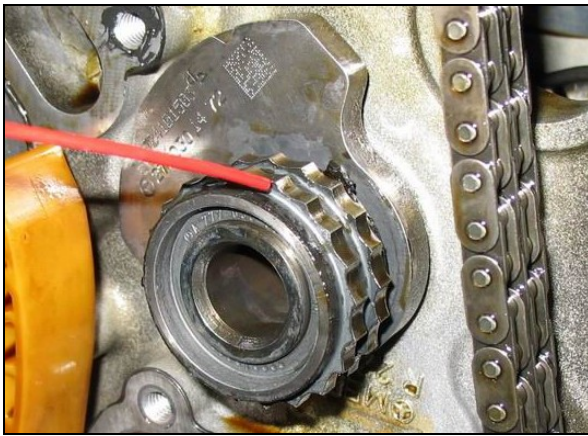

Figure 1 – Damaged/worn S-B-03.30/08a
**Fault Code Scenario 1:** DTC 1200 and/or 1208 is/are present in ME-SFI control module. The fault codes are recorded as current and/or stored in the fault memory. When the fault memory is erased and the engine is restarted, the fault codes reoccur immediately. This is due to the positioning of the timing chain driven camshafts relative to the crankshaft and can be caused by a worn sprocket on the balance shaft on engine M272 or by a worn guide (idler) gear for the timing chain on engine M273. Figure 1, 2 and 3 show extremely worn sprocket gears. Figure 4, for comparison, shows a new sprocket gear.
**i** **Note:** Refer to Figure 1 through 3 for examples of damaged / worn sprocket profile. Refer to Figure 4 for example of a new gear (for comparison).